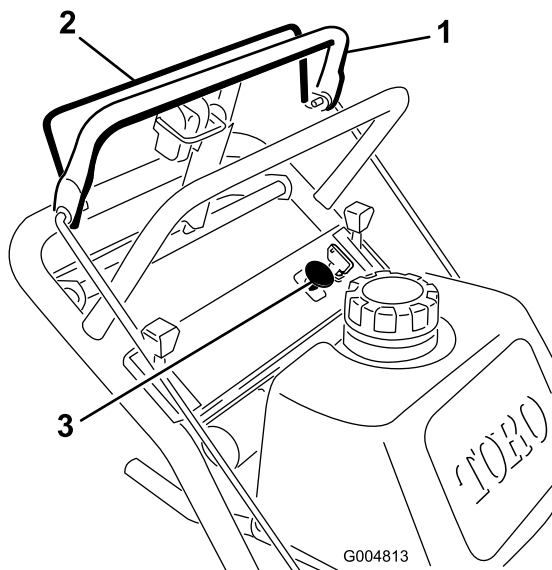

Figure 9
1. Release the upper control bar to stop the machine (Figure 9).
- To engage the blades, squeeze blade control bail against the upper control bar (Figure 9).
Release the blade control bail to disengage the blades (Figure 9).